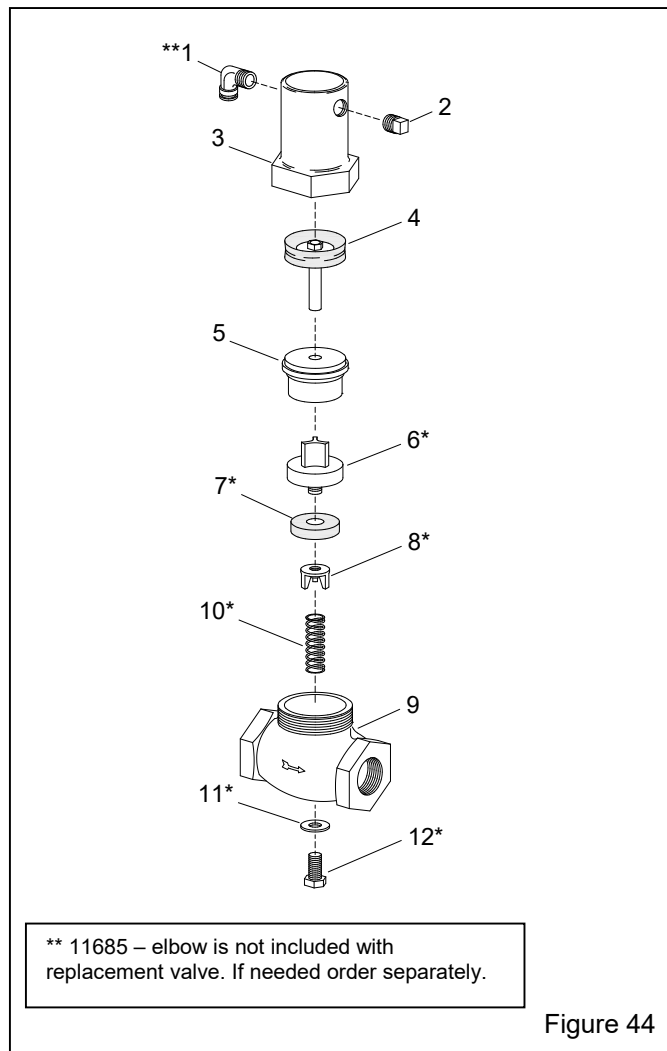

Figure 44
9.9 1" Piston Outlet Valve – Figure 44